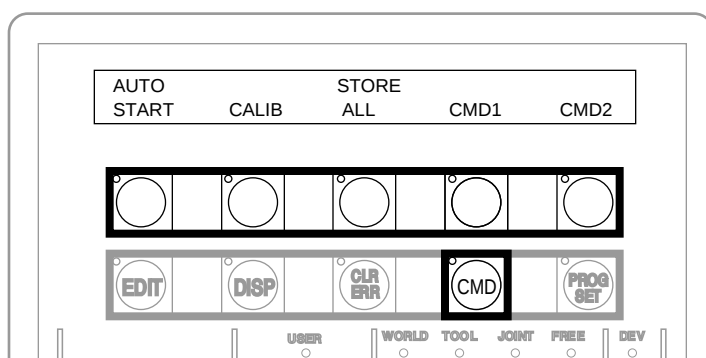

Figure 4-3. Command (CMD) Function Button
2. Press the CMD soft button to display the MCP functions (see Figure 4-3).